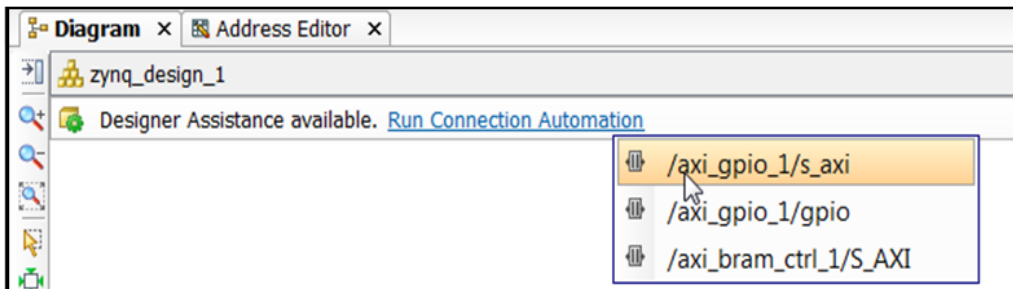

Figure 15: Run Connection Automation
1. Click **Run Connection Automation** and then select `/axi_gpio_1/s_axi` to connect the BRAM controller and GPIO IP to the Zynq PS and to the external pins on the ZedBoard (FIGURE 15).